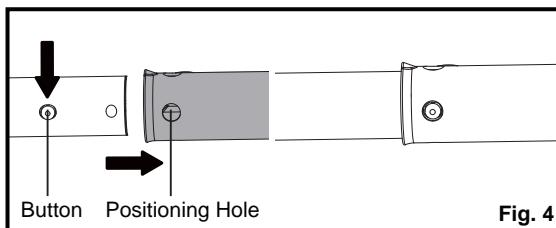

Fig. 4
- Push in the button located on the shaft. Align the button with the positioning hole on the shaft connection sleeve. Slide the shaft into the shaft connection sleeve until the button locks into the positioning hole (Fig. 4).